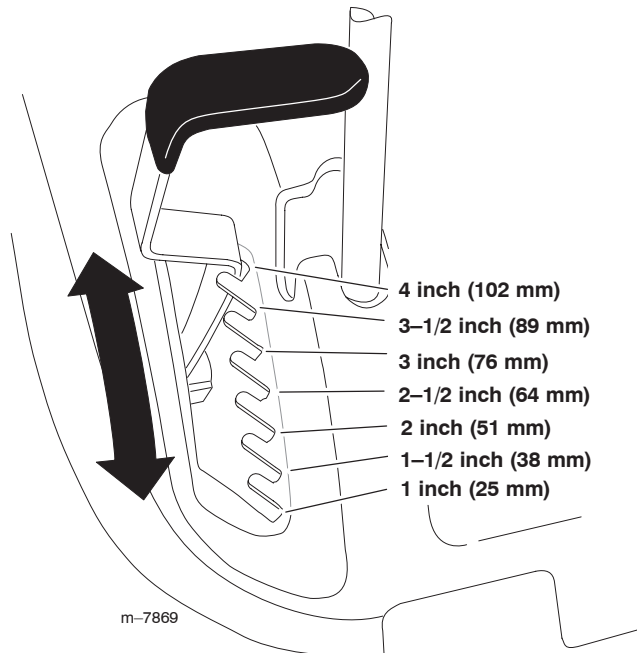

Figure 10
1. Raise the height-of-cut lever to the transport position (also the 4 inch (108 mm) cutting height position) (Fig. 10).
2. To adjust, pull up on the height-of-cut lever and move it to the desired position (Fig. 10).